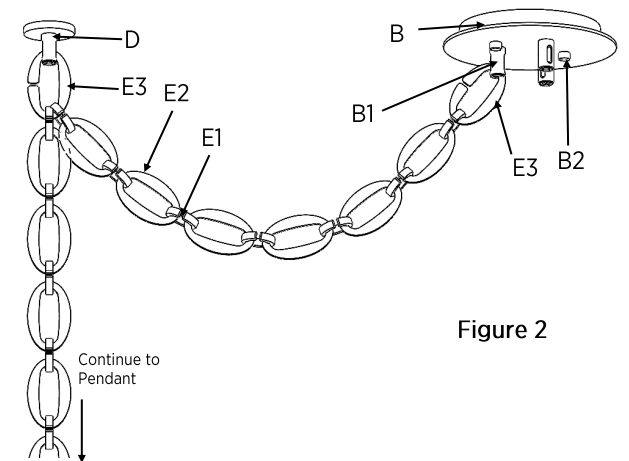

Figure 2
Step 6: Starting from the Open Chain Link (E3) attached to the mini canopy (D2) Assemble the chain by interlocking alternating Flat Chain Links (E2) and Ring Chain Links (E1) (See Figure 2 for example) until desired overall height for pendant is achieved. Then, starting from the Open Chain Link (E3) attached to the mini canopy (D2) once more, assemble the chain towards the main canopy until the distance between the main canopy and the mini canopy is covered.